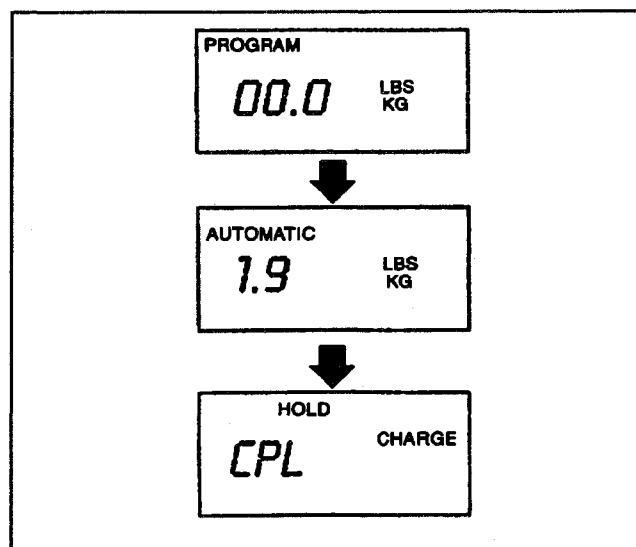

Figure 23—Display Shows Complete
1. Close the low side valve on the control panel (Figure 23).